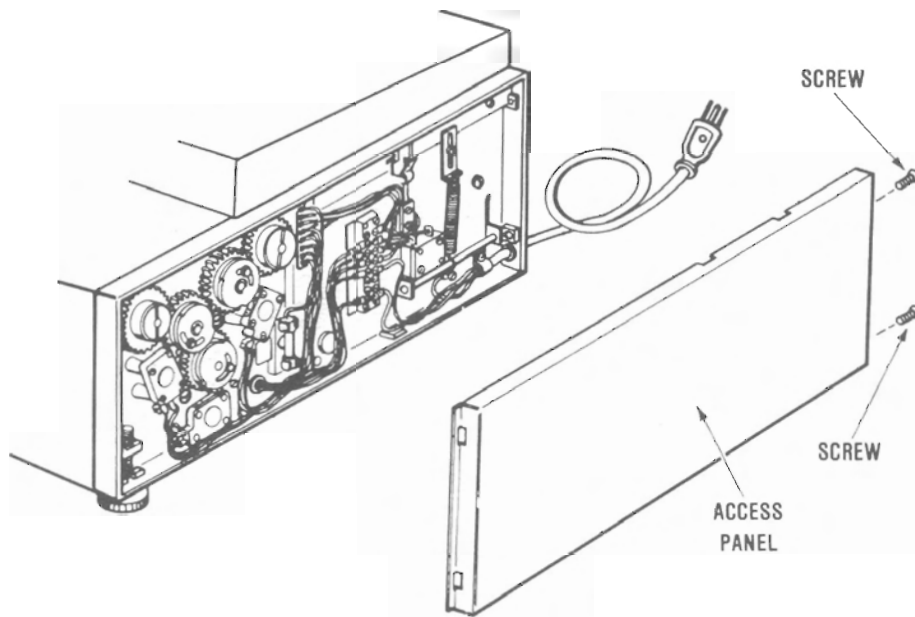

Figure 8-7
2. Remove right hand access panel from side of instrument by removing two screws (see Figure 8-7). Fuse holder is mounted to the rear of this panel.
1. Remove right hand access panel from side of instrument by removing two securing screws from right rear. (See Figure 8-7.)